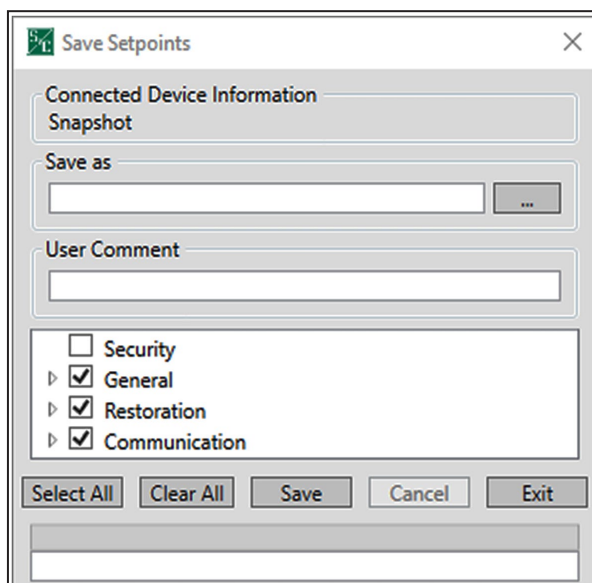

Figure 11. The Save Setpoints dialog box.
- STEP 2.** In the Save Setpoints dialog box, click on the **Select All** button followed by the ... button. See Figure 11. The Save Setpoints dialog box will open.